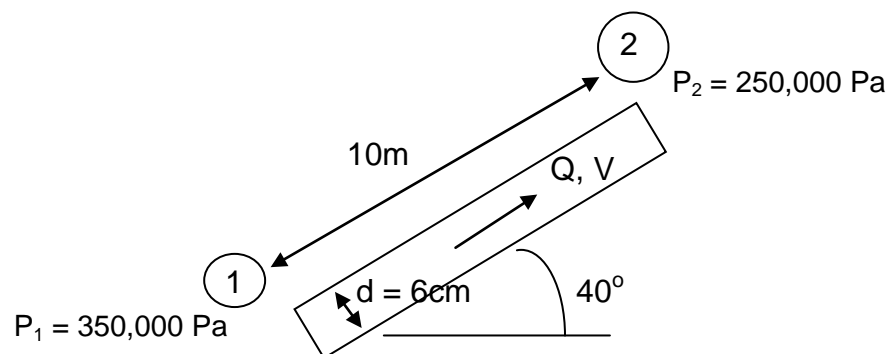

Figure 11: Oil flows upward through the inclined pipe
5. An oil with $\rho = 900 \text{ kg/m}^3$ and $\nu = 0.0002 \text{ m}^2/\text{s}$ flows upward at a constant velocity through an inclined pipe as shown in Figure 11. The pressure and elevation are known at points 1 and 2, 10 m apart. Assuming steady laminar flow. Calculate: